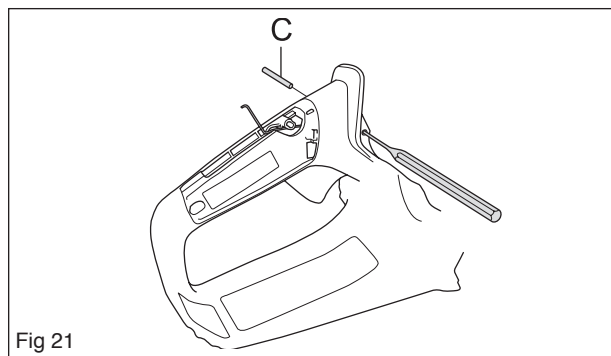

Fig 21
Press out the throttle control pin (C) with the help of a punch. See figure 21.